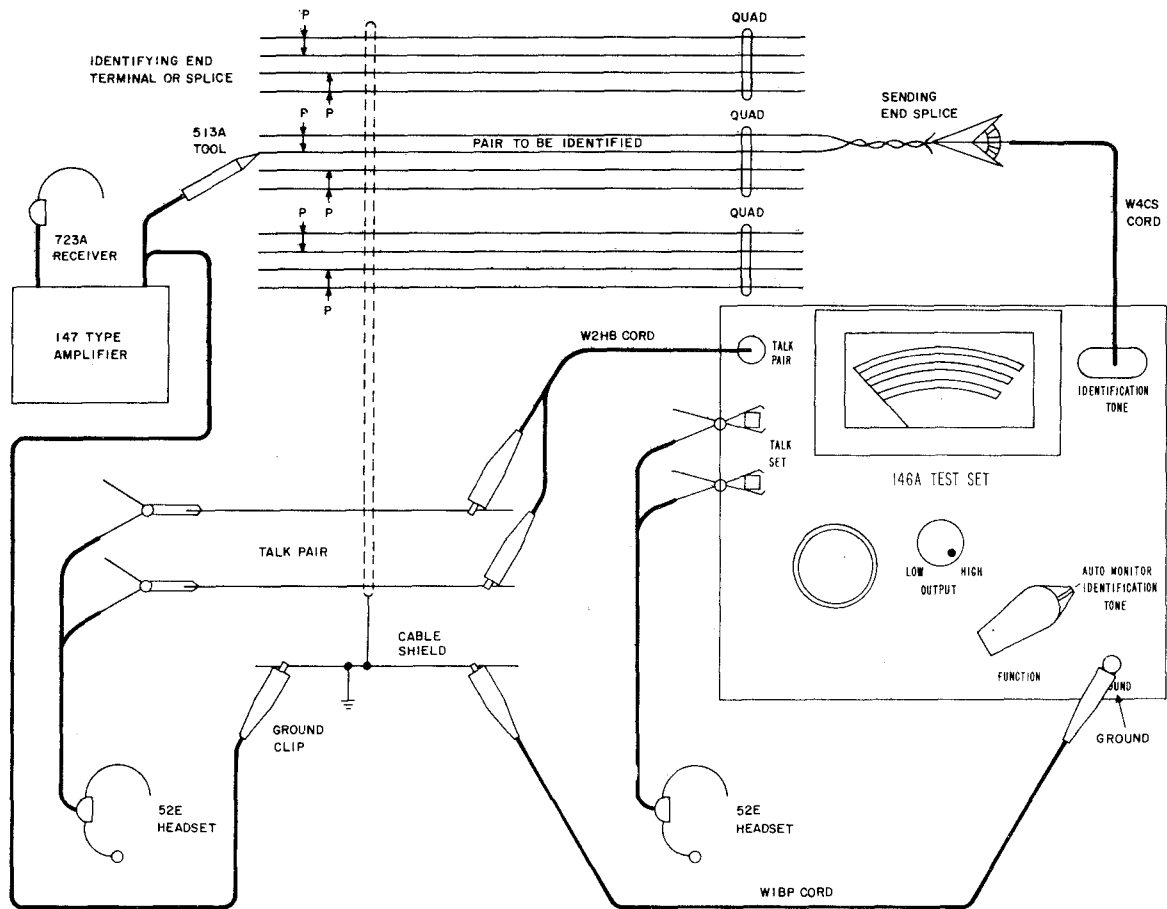

Fig. 11—Identifying Conductors in Quadded Cable—Tone Sent From Splice Location
- 5.20** Refer to Fig. 11. In long quadded cable it is advisable to use the W4CS cord and set the FUNCTION switch to AUTO MONITOR IDENTIFICATION TONE. With this technique the tone must be applied at the splice and not at a terminal location. The quad on which tone is sent must be nonworking.